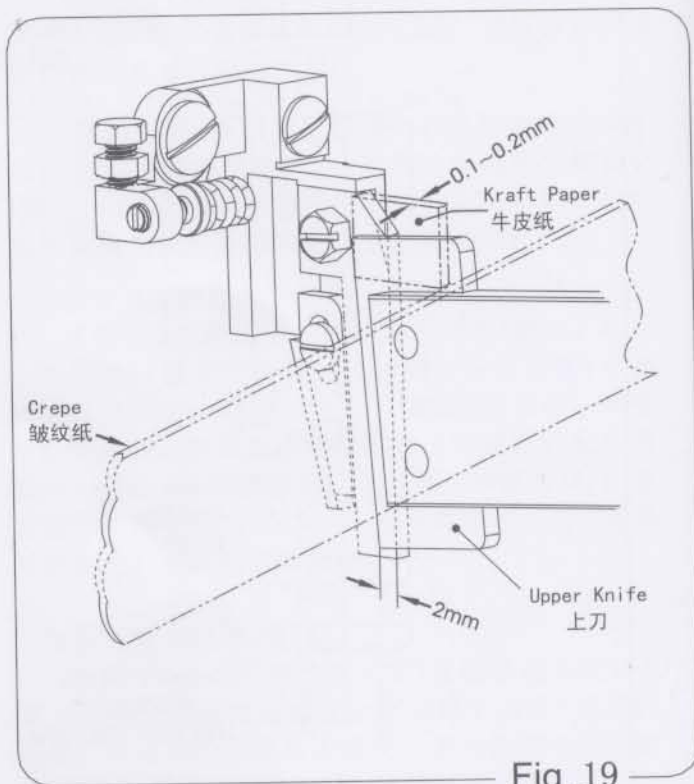

Fig. 19
- a. Move the upper blade down to make it closed to the lower blade, fit clearance of the blade back is 0.1~0.2 MM (Fig.19), between upper blade and lower blade should be able to insert or pull out a kraft paper smoothly.
- c. After the adjustment by steps a) 、 b), cut a crepe tape or thaead for test. If the front end of the cutter cuts but the rear end does not, there is a gap on the rear side. In this case, loosen the nut (b) and loosen the screw (c) by 1/8 turn, and cut the thread again for test. If it still does not cut, loosen the screw (c) by another 1/8 turn and repeat this adjustment and test cut until the thread can be cut, and then retighten the nut (b) screw (a). If the rear end of cutter cuts but the front end does not cut, the adjustment by step a) is insufficient. Then make readjustment of the rear side so than the gap between both the blades become 0.1 to 0.2mm Here, adjust the upper and lower blades so than they are in contact with each other on the front side. If the lower blade tends to turn away without cutting, increase the pressure of the spring by turning the screw (e) clockwise. (Fig.19)
(13) 氣動式綫辦切刀的調節